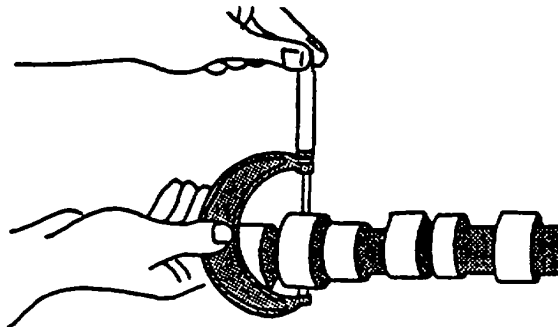

FIGURE 3-131. Measuring Camshaft Journals
- (1) Use a micrometer to take measurements, refer to FIGURE 3-131.
- (2) New camshaft journal diameter is 2.200 to 2.201 inches (55.87 to 55.90 mm). Maximum wear tolerance is 0.001 inch (0.025 mm).
- (3) If a camshaft journal diameter is less than 2.199 inches (55.85 mm), install a new camshaft.
- (4) Measure camshaft bearing bore diameter in cylinder block; 2.204 to 2.205 inches (55.98 to 56.01 mm). Maximum clearance between bore and camshaft journal; 0.007 inch (0.18 mm).